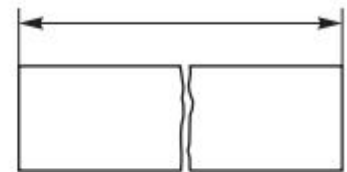

Fig. 2.32
5. A dimension line should be shown unbroken, even where the feature to which it refers, is shown broken (Fig. 2.32).